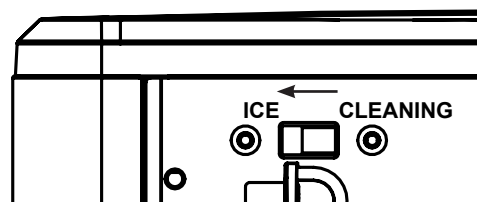

Figure 9
17. When complete, slide the rear switch back to "Ice" mode. See figure 9.